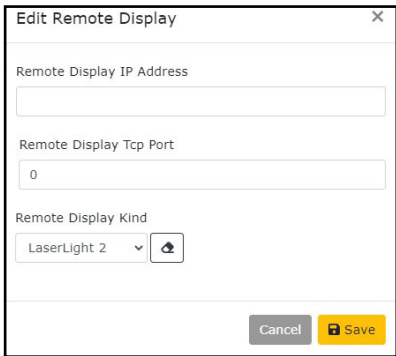

Figure 6-12. Edit Remote Display Window
- Select **Save** (see Figure 6-12 on page 81).